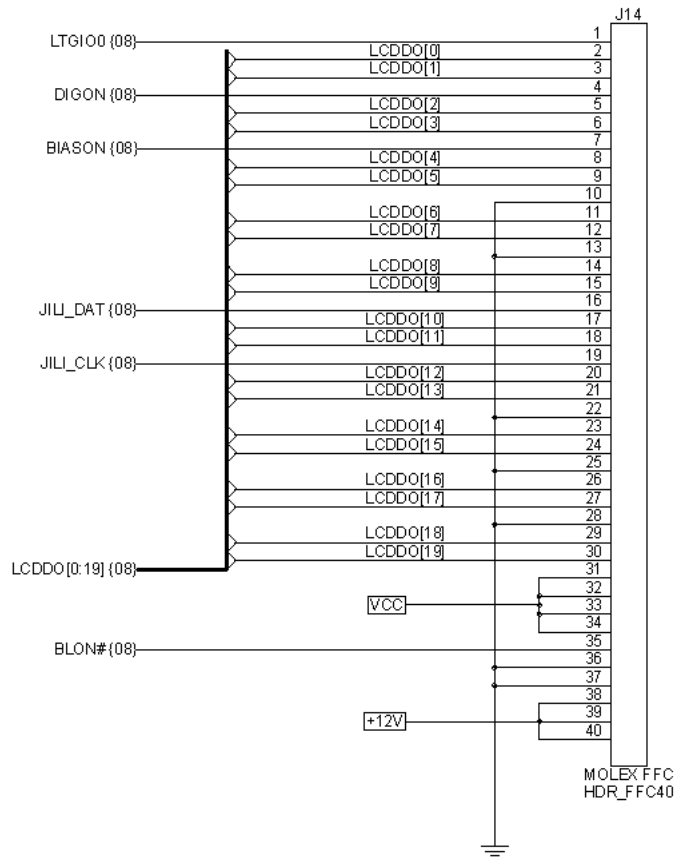

Figure 10 – JILI Connector for Flat Panel LVDS Interface
- ▶ If a parallel flat-panel interface is used, consider implementing the interface using the same connector and pinout used for JILI operation (shown in Figure 10), and a "receiver board" to connect the parallel signals on the flat foil cable to the display. This implementation provides an easy upgrade path to an ETX module with an LVDS interface.